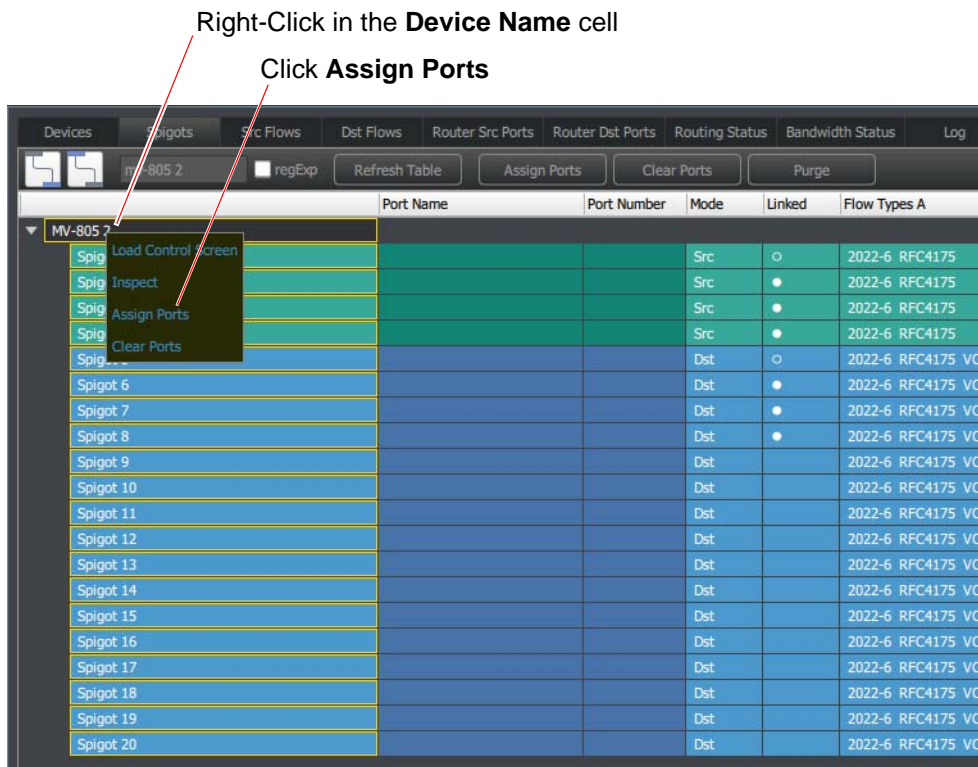
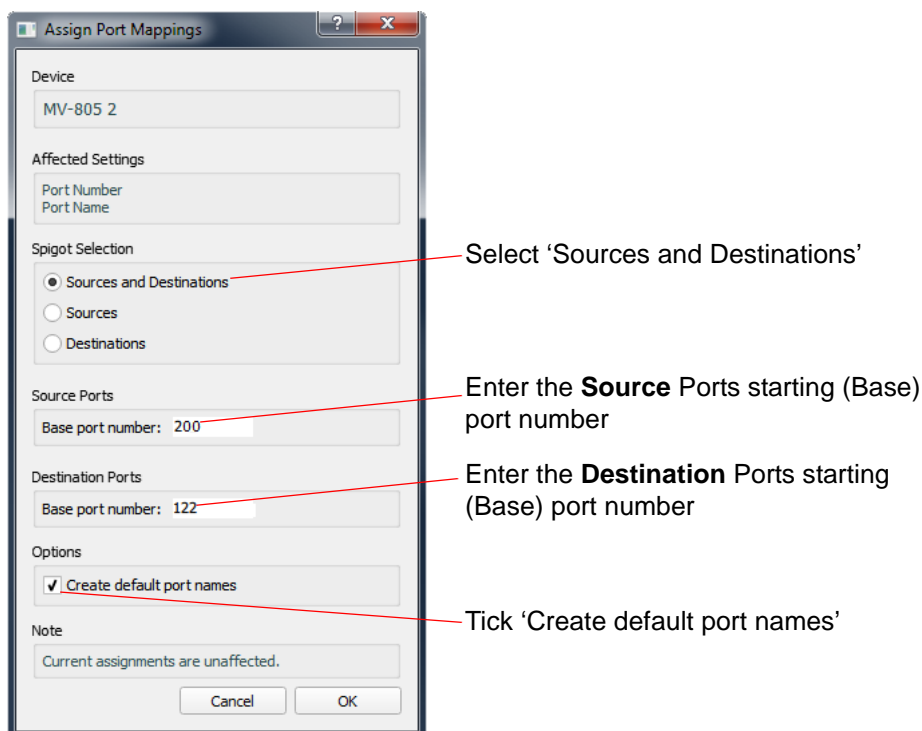

Figure 77 Right-Click and Assign Ports
Figure 78 Assign Port Mappings Dialog (Example)
3. Right-click in the **Device Name** cell and select **Assign Ports** in the pop-up menu. See Figure 77. An **Assign Port Mappings** dialog appears, see Figure 78.
Note: In the example of Figure 78, '200' is used here, based on Figure 74.
Note: In the example of Figure 78, '122' is used here, based on Figure 75.